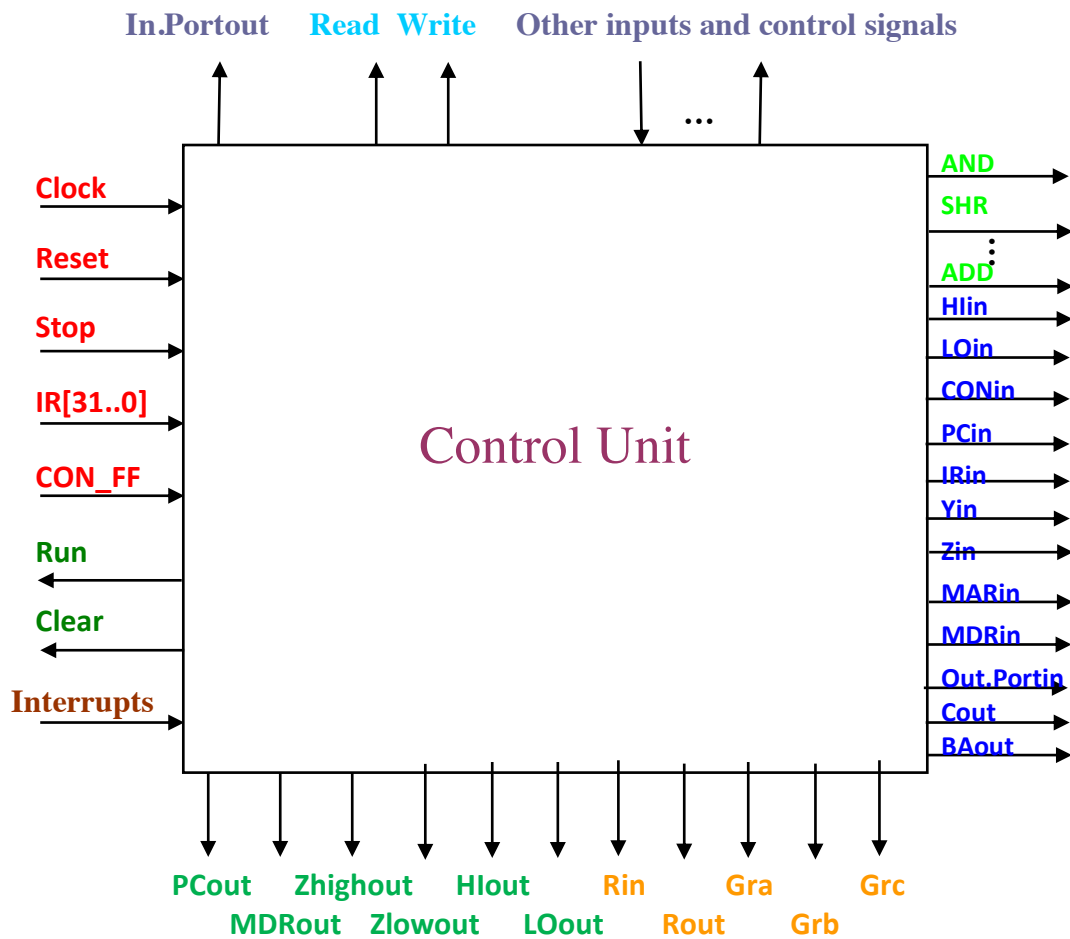

Figure 5: Block diagram of the Control Unit
The ALU has two inputs, A and B, and an output, C. Because the bus can support only one transaction at a time, one of the inputs (A input) to the ALU needs to be stored in the 32-bit temporary register, Y. As discussed in the CPU Specification document, the ALU supports the addition, subtraction, multiplication, division, shift right, shift right arithmetic, shift left, rotate right, rotate left, logical AND, Logical OR, negate, and NOT operations. The control signals to the ALU (generated by the Control Unit in Phase 3, as shown in Figure 5) will enforce the required operation. These control signals include *ADD*, *SUB*, *MUL*, *DIV*, *SHR*, *SHRA*,
2.2 Control Unit: The Control unit is to be designed in Phase 3. However, a block diagram is provided in Figure 5 for a better understanding of the Datapath. The Control Unit is at the heart of the processor. It accepts as inputs those signals that are needed to operate the processor and provides as outputs all the control signals necessary to execute the instructions. The outputs from the Control Unit are the control signals that we use to generate **Control Sequences** for the instructions of the Mini SRC.